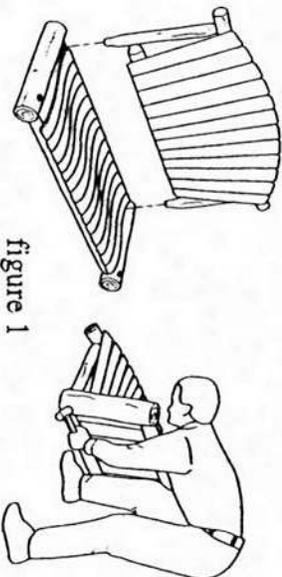

figure 1
STEP 1 Install seat end onto seat. Align holes in seat end with dowels on seat as shown in picture right. Repeat on other side. Secure with screws perpendicular to dowel. **IMPORTANT:** The single hole should be placed toward the front for the seat. (See figure 1).